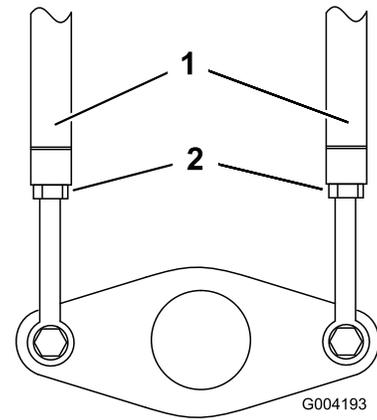

Figure 50
3. Loosen the jam nuts on the traction rods, under the control panel (Figure 50).